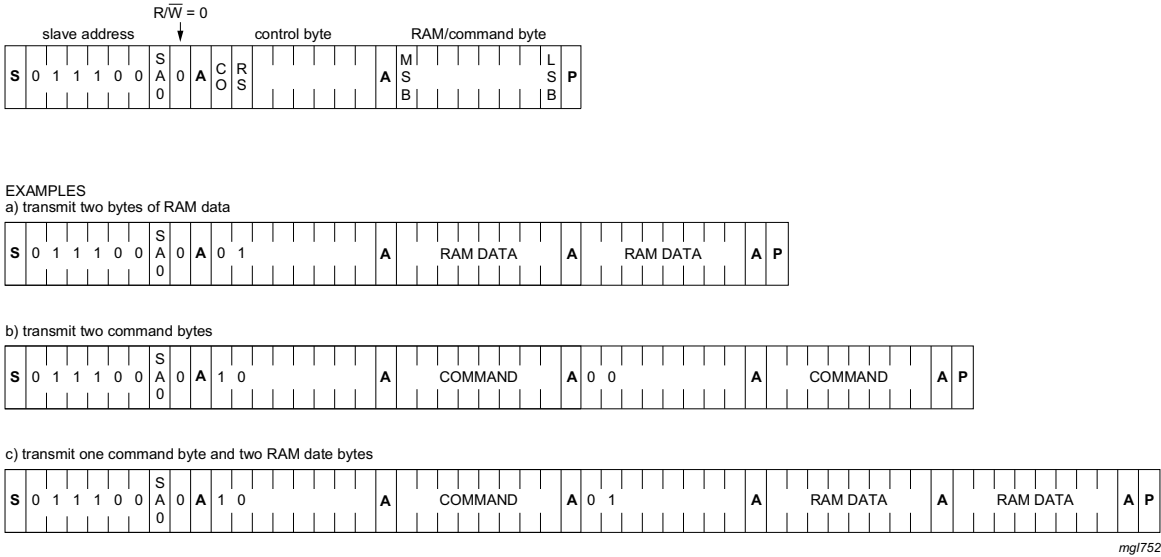

Fig 17. I2C-bus protocol
The I2C-bus protocol is shown in Figure 17. The sequence is initiated with a START condition (S) from the I2C-bus master which is followed by one of the available PCA85134 slave addresses. All PCA85134 with the same SA0 level acknowledge in parallel to the slave address. All PCA85134 with the alternative SA0 level ignore the whole I2C-bus transfer.